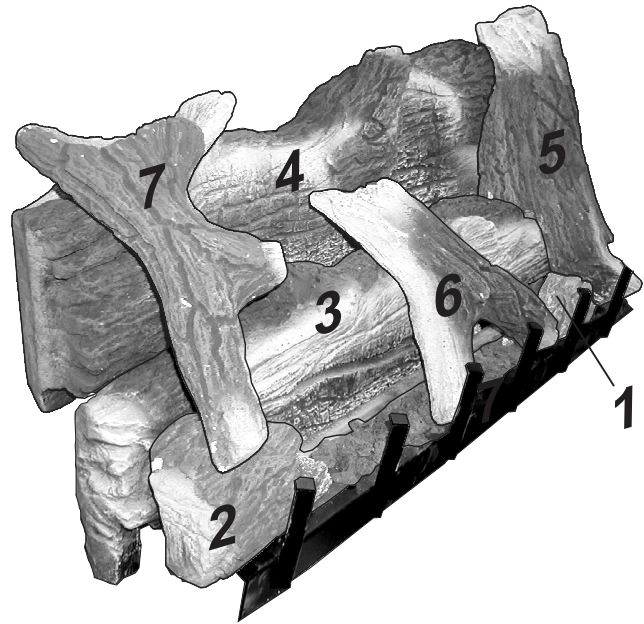
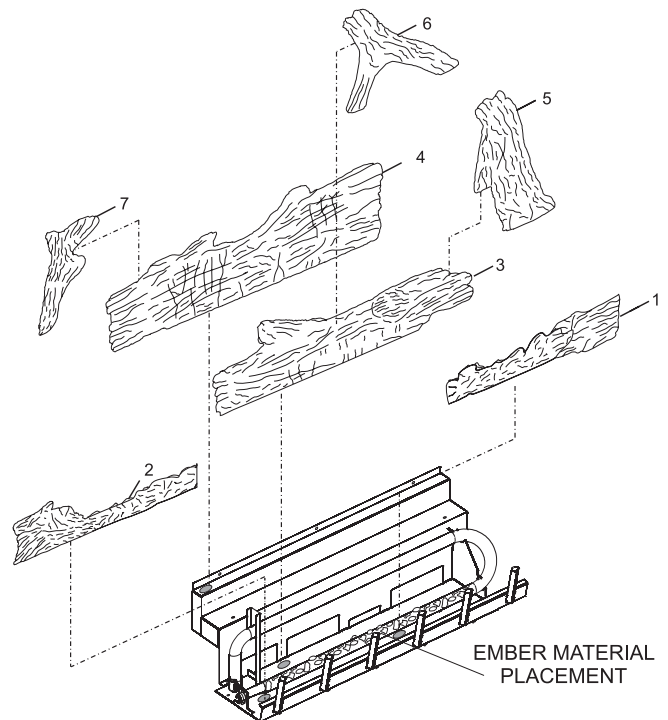

Figure 60
Figure 61
The positioning of logs is critical to safe and clean operation of this fireplace. Sooting and other problems may result if the logs are not properly and firmly positioned in the fireplace. Please refer to **Figure 60** and **Figure 61** and corresponding WARNING when completing following log placement steps.
7. Place right "Y" branch (#5) along side of middle log as shown in **Figure 61**. Insert the pin on right "Y" branch (#5) into right recess on rear log (#4).
11. After all logs are properly positioned, place small "dime" size pieces of Rockwool lightly across the front burner tube ports. Place the ember material (Rockwool pieces) side by side. Do not stack more than one layer of embers across the burner ports. **See Figure 61.**
Attention: Do not use Figure 60 or Figure 61 to order logs. Refer to parts list and parts view on pages 60 to 61 to order logs and/or ember material for your appropriate fireplace model.